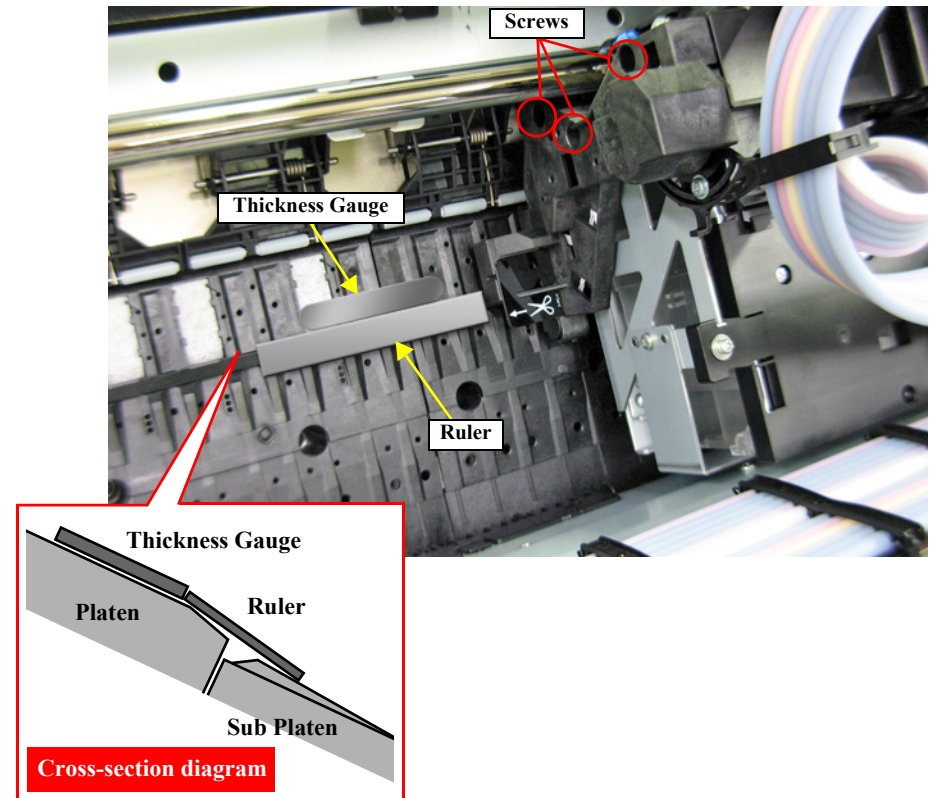

Figure 5-41. Position for the ruler and gauge
6. Secure the ruler with the double-sided tape on the position shown in Figure 5-41.
7. Place the thickness gauge on the ruler. See Figure 5-41 for the position.